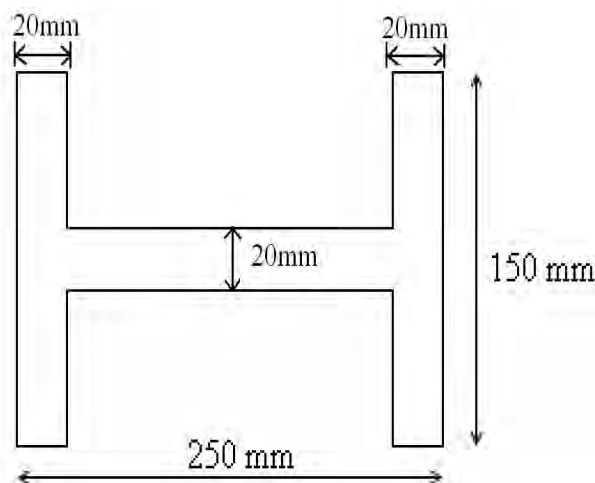

Figure 4:
- A steel H - beam section shown in figure 4, thickness 20 mm, is subjected to a shear force of 250 kN. Draw the shear stress distribution across the depth of the section. Also determine ratio of maximum shear stress to the mean shear stress. [15]